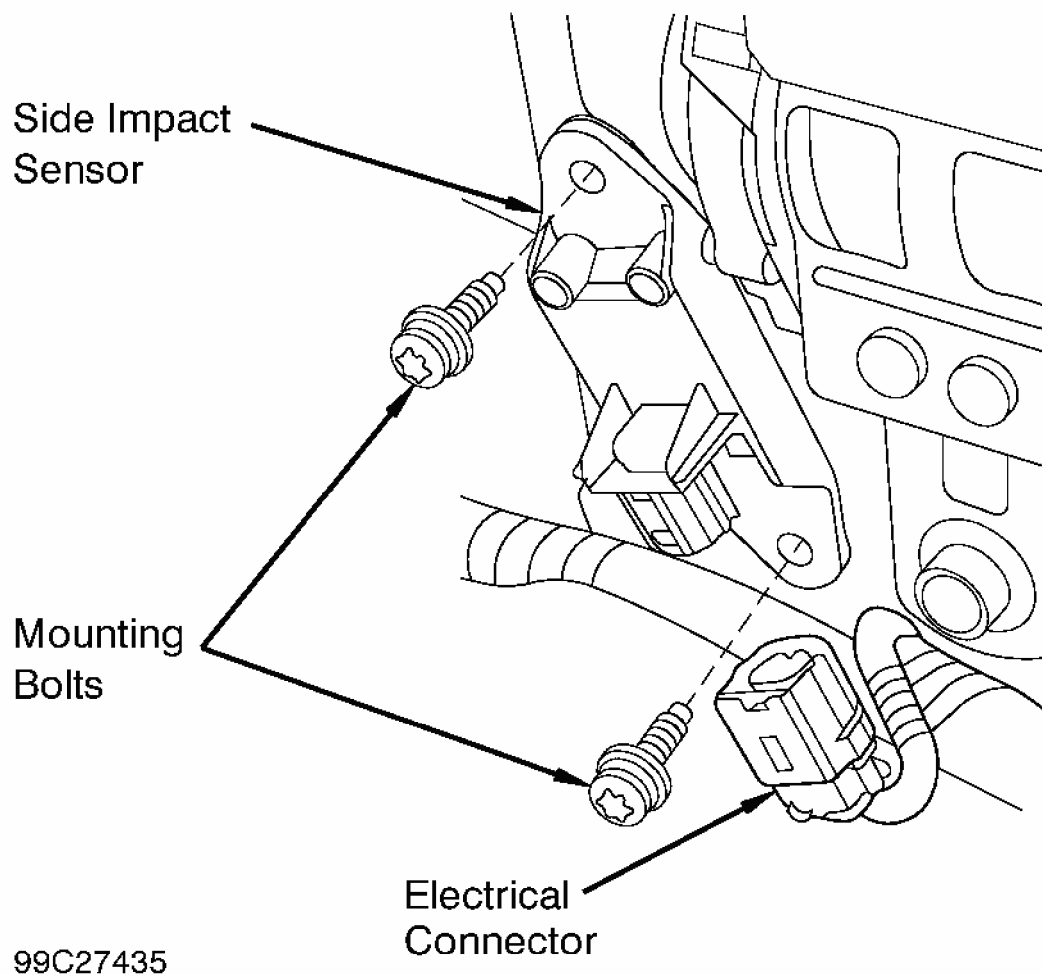

Fig. 28: Identifying Side Impact Sensor
1. Before proceeding, see **AIR BAG SAFETY PRECAUTIONS** . Disable air bag system. See **DISABLING SYSTEM** under DISABLING & ACTIVATING AIR BAG SYSTEM. Remove appropriate front seat. See **FRONT SEAT** . Remove center pillar lower trim panel. Disconnect side impact sensor electrical connector from side impact sensor. See **Fig. 28** . Using T30 Torx bit, remove side impact sensor mounting bolts and remove sensor.